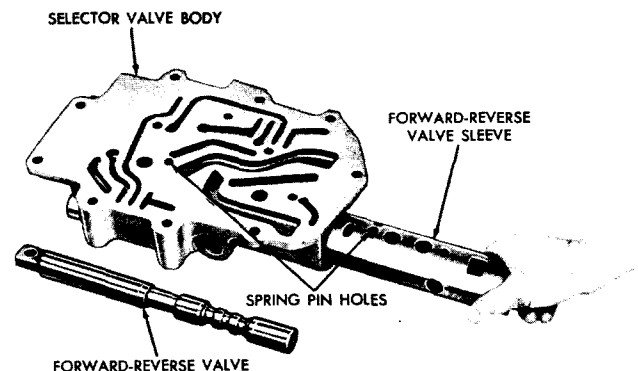

Fig. VI-1. Installing forward-reverse valve sleeve
(5) Install remaining detent ball 16, spring 12, pin 13, gasket 14 and plug 15.
(6) Install the forward-reverse valve sleeve into the valve body as shown in fig. VI-1. Note the relative positions of the valve body and sleeve, and the openings in the sleeve. The spring pin holes in the body and sleeve must be aligned.
(7) Install spring pin 18 (B, foldout 13). Drive it into the valve body until it seats in the valve sleeve.
(8) Install spring 27 and detent ball 26 into the valve body.
(9) Depress the ball and spring, and install the forward-reverse control valve assembly 2, notched end first, into the rear of the valve body. Push the valve into the bore until it catches detent ball 26. Remove the tool with which the detent ball was depressed, and push the valve to a detent position.
(10) Install remaining detent ball 26, spring 25, pin 24, gasket 23, and plug 22.
(11) Install seal 19 (B, foldout 13), spring-loaded side inward, onto the range selector valve stem.